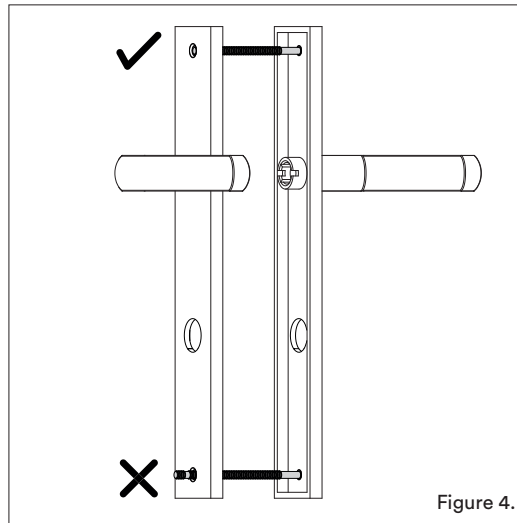

Figure 4.
- 3.2. Ensure to cut so that the screw does not protrude from the opposite plate once installed. (Figure 4)